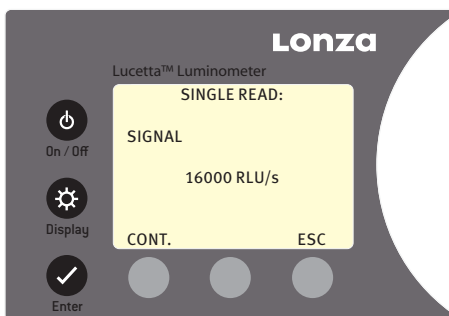

Figure 5. Example of a Single Read measurement screen. The result of the measurement is 16000 RLU/s.
4. Open the door of the Lucetta™ Luminometer and insert the sample vial. Upon closing the door the measurement automatically starts after a delay time of 2 seconds. After the delay and measure times have counted down, the measured value in RLU/s will appear on the display (figure 5).